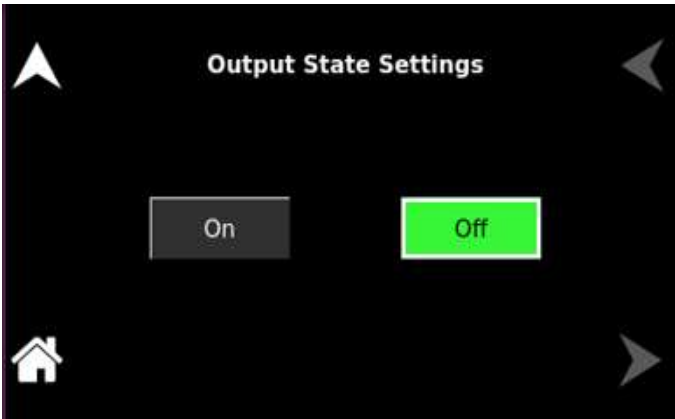

Figure 10-54. Output State
**Output State** Users can program the output to ON or OFF state. Refer to Figure 10-54.